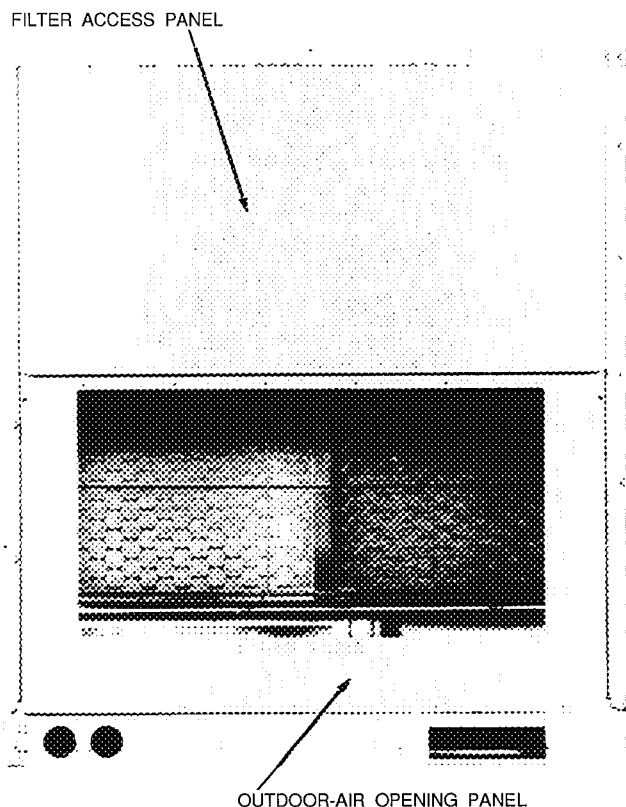

Fig. 13 — Access Panel Locations (48GJ012 Shown)
2. Remove filter access panel by raising panel and swinging panel outward. Panel is now disengaged from track and can be removed. No tools are required to remove filter access panel. Remove outdoor-air opening panel. Save panels and screws. See Fig. 13. Remove optional outdoor-air damper hood package from filter section.
2. Remove filter access panel by raising panel and swinging panel outward. Panel is now disengaged from track and can be removed. No tools are required to remove filter access panel. Remove outdoor-air opening panel. See Fig. 13. Save panels and screws. Remove optional economizer so the outdoor-air damper hood package can be removed from the filter section.